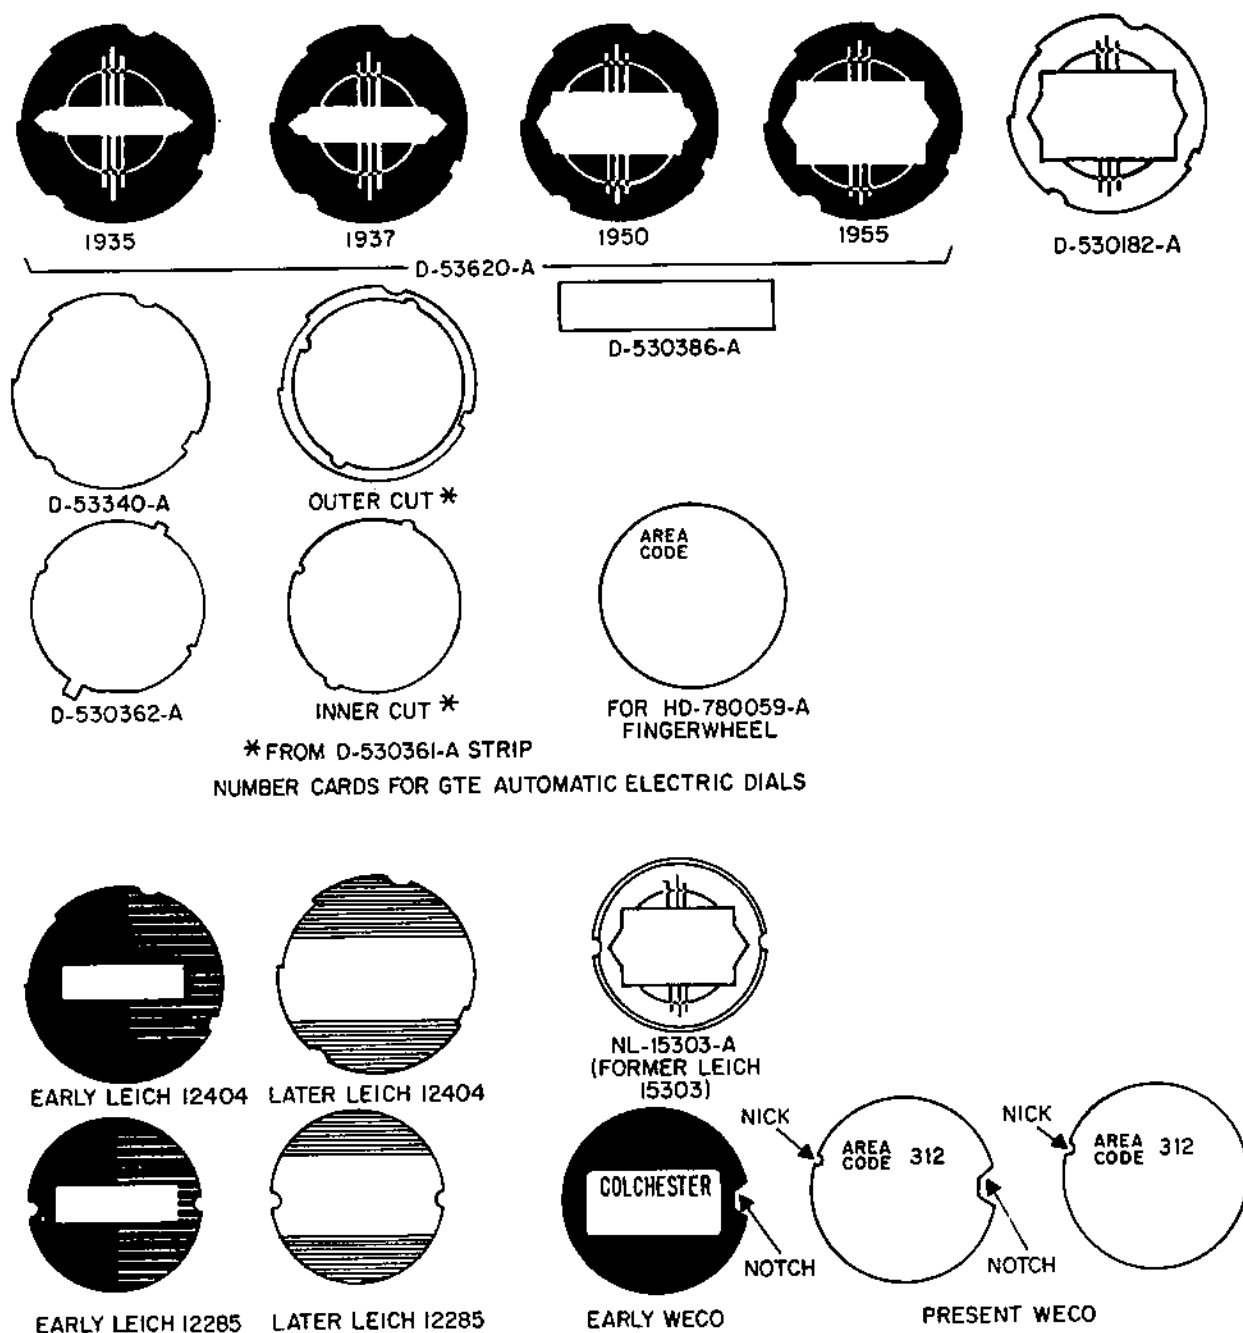

Figure 11. Number Cards.
4.02 GTE AE dials beginning with the Type 24 used black number card D-53620-A, its number space having been enlarged from time to time (see Figure 11). Assembly D-530155-A provided four such cards die-cut to be broken out of a 9-1/2 inch x 2-inch strip. For use on colored Type 52 dials, white number card D-530182-A was provided singly, and in strips of four as D-530184-A. Beginning in May, 1964, all dials manufactured with metal fingerwheels were equipped with a number card D-53340-A, a completely blank white card otherwise identical to D-530182-A, which it superseded. At the same time, the smaller-diameter D-530362-A card, also plain white, was introduced for use with the D-780896-A acrylic fingerwheel. Strip D-530361-A provides four cards of either type by means of two concentric die cuts. This strip supersedes D-530184-A. The following differences between the individual cards and those broken from the strip should be noted:
4.06 WECO dials with metal fingerwheels are arranged to use a 1-1/2 inch diameter number card with a notch at the right side to clear the locating tab in the card holder frame (Figure 11). The older black cards with white space for the station number have been replaced in most applications by plain cards of a neutral gray shade. For use with the P-11E007 acrylic fingerwheel, a card is required without the notch but with a nick in the upper left edge. WECO dials, telephone sets, data sets, and teletypewriters are sold with no number cards equipped or provided. The sale of cards is discouraged by the supplier. Breakout cards in strips of four are arranged with the locating nick, and with a notch provided optionally by tearing out a perforated area. GTE AE NL-15303-A cards, though slightly smaller in diameter than WECO cards, are an adequate substitute when installed in metal card holder frames. In this case, the right-hand indentation may require trimming to clear the locating tab. In the same manner, the cards may be nicked to fit WECO acrylic fingerwheels. The left-hand indentation will be visible, however.